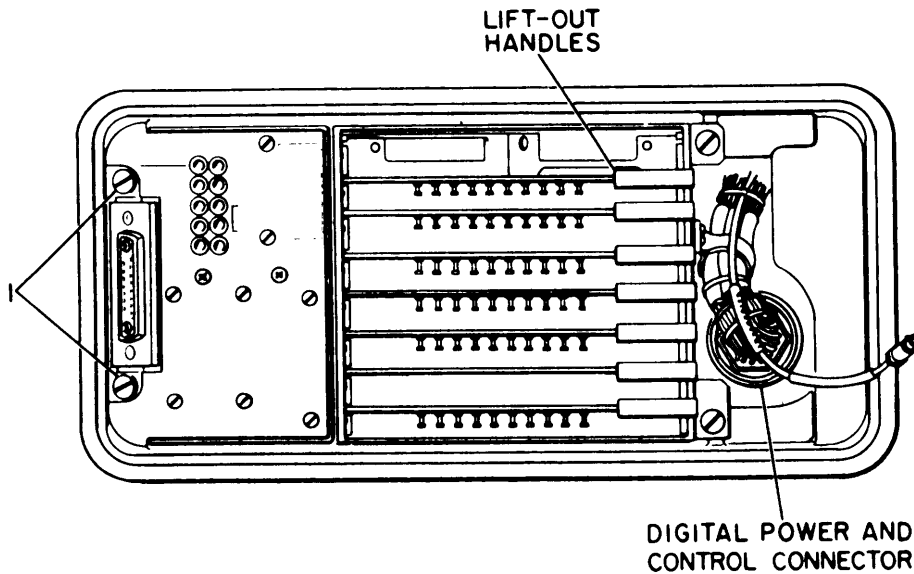

Figure 4-18. Digital and Power Supply Section and Circuitboard Removal
b. Lift up lift-out handles (figure 4-18) and pull circuit-board out of card cage.
c. Disconnect digital power and control connector (figure 4-18).
d. Loosen two slotted lift-out screws (1, figure 4-18) and remove power supply PS1.